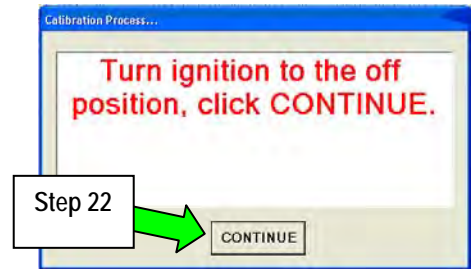

Figure 1k
21. When the calibration process has completed successfully, the message in Figure 1k will display.